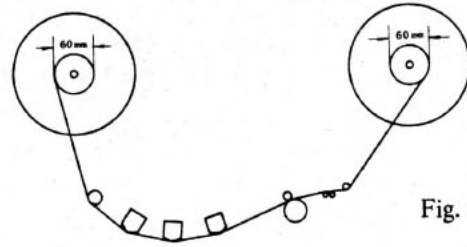

Fig. 6
- 1) Back tension for "Reverse Play" depends upon the torque of Motor B, as shown in Figure 6. Adjust back tension to 60 grams adjusting the 230 Ω Resistor (F), as shown in Figure 5. At this tension setting, voltage applied to Motor B is approximately 29 V.
- 2) Take-Up tension for "Normal Play" depends upon the torque of Motor B, as shown in Figure 6. Adjust take-up tension to 100 grams by adjusting the 120 Ω Resistor (A), as shown in Figure 5. At this tension setting, voltage applied to Motor B is approximately 41 V.
- 3) Back tension for "Normal Play" depends upon the torque of Motor A, as shown in Figure 6. Adjust back tension to 60 grams by adjusting the 230 Ω Resistor (F), as shown in Figure 5. At this tension setting, voltage applied to Motor A is approximately 29V.
- 4) Take-up tension for "Reverse Play" depends upon the torque of Motor A, as shown in Figure 6. Adjust Take-up tension to 220 grams by adjusting the 120 Ω Resistor (A), as shown in Figure 5. At this tension setting, voltage applied to Motor A is approximately 62V.